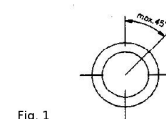

Fig. 1
2. The switches must be installed vertically, deviation max. 45° (Fig. 1).